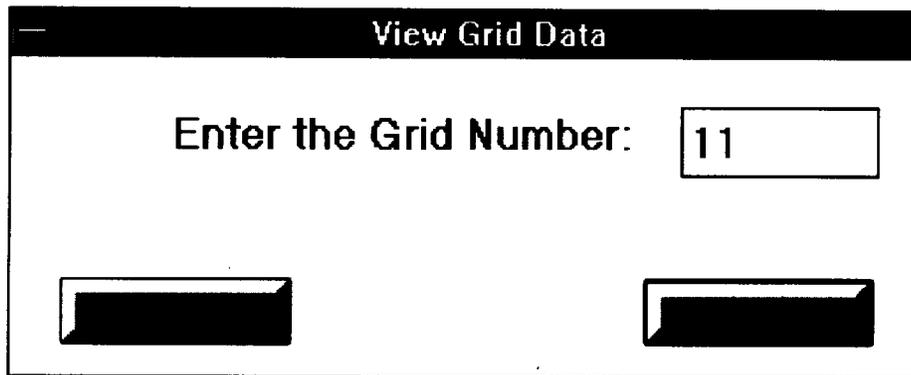

Figure 10.2-1. Viewing Grid Data
- \* Enter the grid number in the dialog box shown in Figure 10.2-1 and Click **OK**.